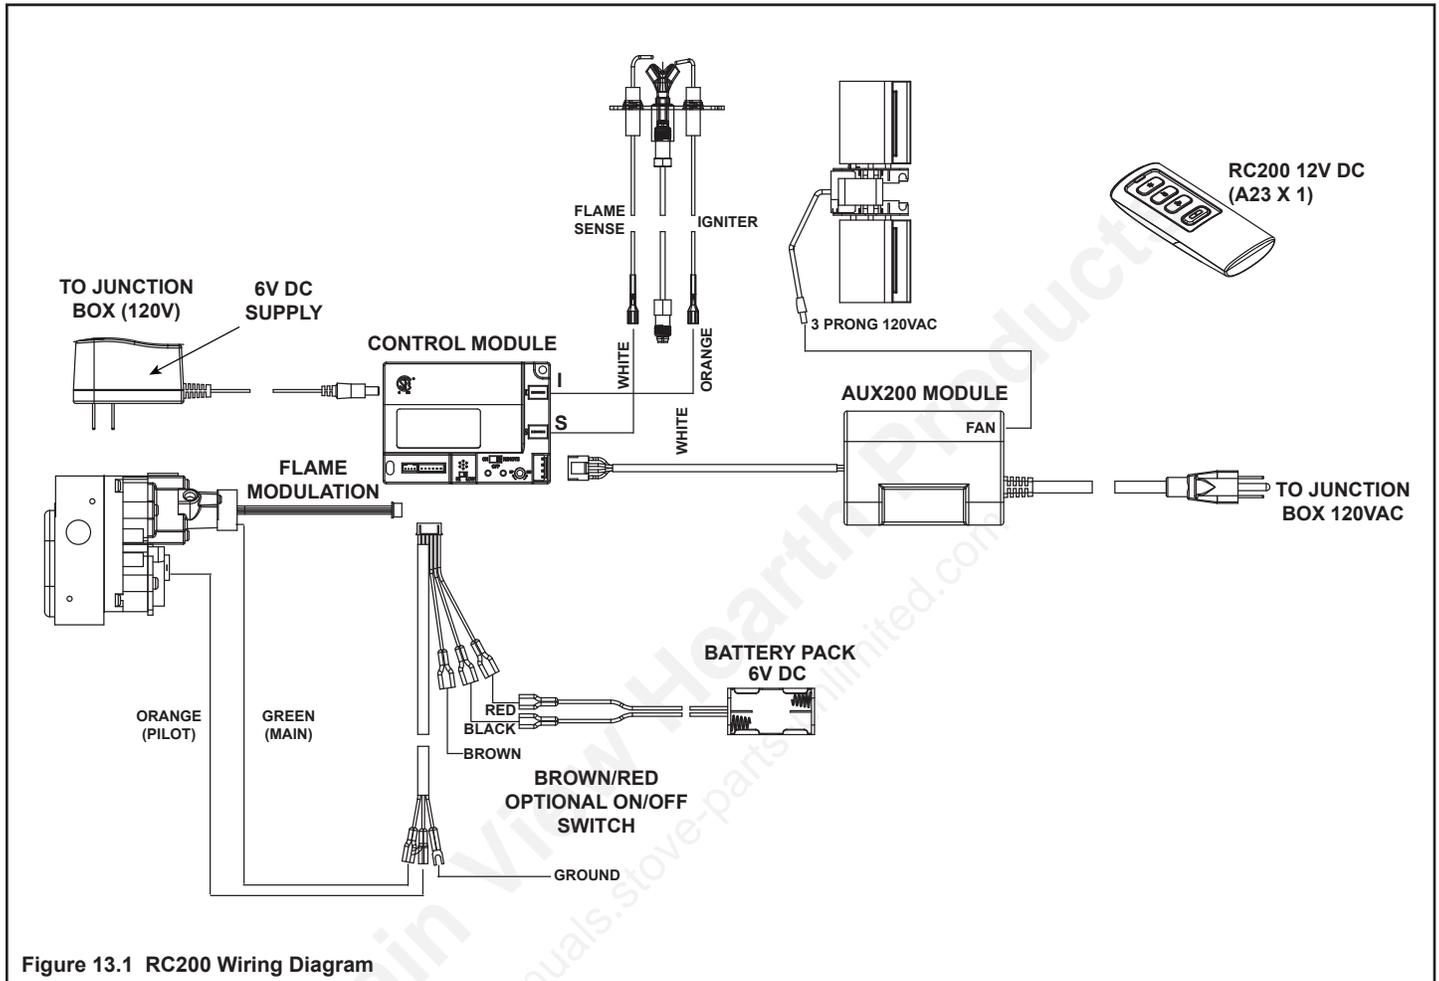

Figure 13.1 RC200 Wiring Diagram
- Refer to Figure 13.1, Intellifire Plus intermittent pilot ignition (IPI) wiring diagram.